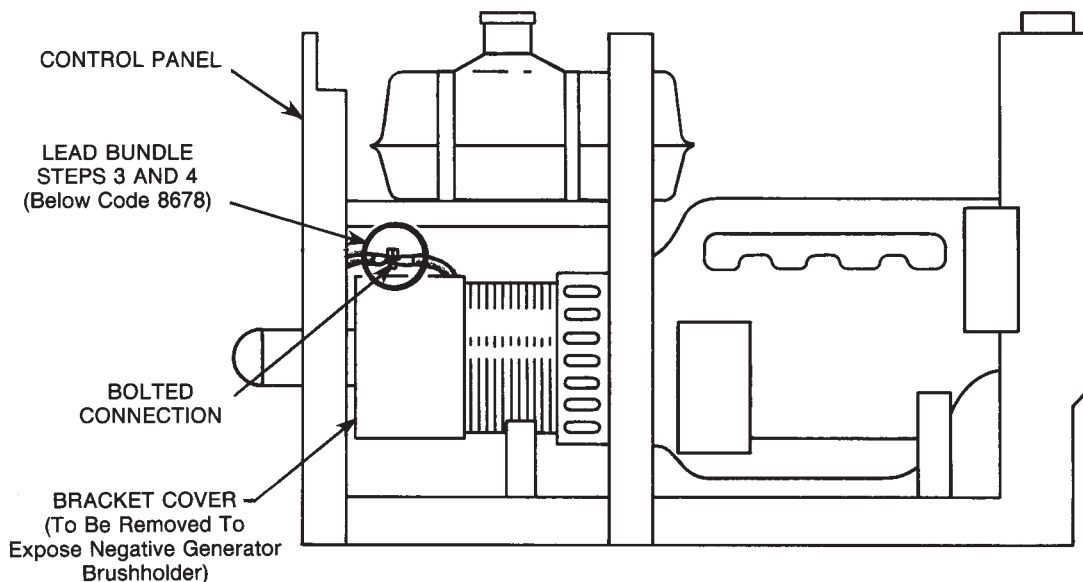

FIGURE 2 – SA-200 with Roof Assembly Removed.
1. Remove roof assembly and bracket cover (cover on top and at rear of generator). (See Figure 2.) Also, remove the two gas tank support mounting bolts on the side opposite the output studs.
3. FOR CODE NUMBERS BELOW 8678, unbolt existing brown field lead from black exciter leads in the lead bundle and bolt it to CV Adapter lead 509 using #10 x 1/4 bolt and nut provided. Tape up connection and unused lead terminal on lead 509 (see Figure 2 below).
4. FOR CODE NUMBERS BELOW 8678, connect CV Adapter lead 610 to black exciter lead bolted connection shown in Figure 2 and insulate the connection with tape. Tape unused lead terminal on lead 610.
8. The negative generator brushholder, exposed when bracket cover (see Figure 2) is removed, is at the 11 o'clock position when the commutator is viewed from the control panel end of welder. Remove the 5/16 bolt which connects the two existing cables to the negative brushholder. Locate the thermostat assembly marked "200" and reconnect the two cables to the negative brushholder with *one end of the thermostat assembly bolted between the cable lugs and the brushholder.*
2. Drill two holes in fuel tank rail opposite output terminals as in Figure 2 if holes are not in unit.